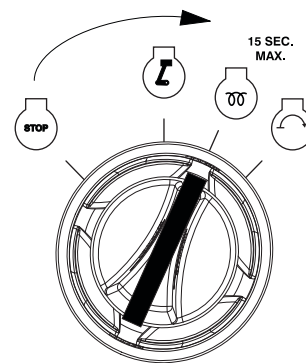

Figure 3-7. Activate Glow Plug
2. See **Figure 3-7**. Turn the key on the Engine Start switch to the right GLOW PLUG position and hold the key in place for five seconds.